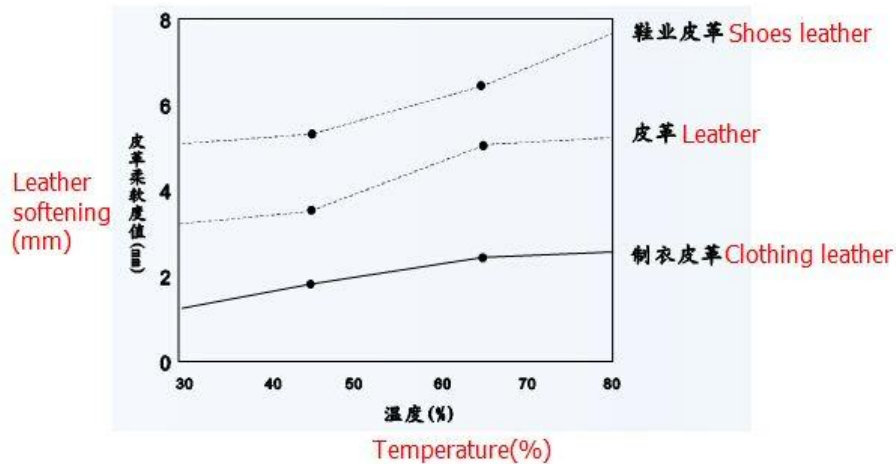

Figure 2
1.1 Place sample samples at standard space temperature : $20^{\circ}\text{C} \pm 2^{\circ}\text{C}$, Relative humidity: $65 \pm 2\%$ indoor 48 hours; In the test of all leather,the experimental results show that the softness of leather under the same indoor temperature 20°C .As the humidity increases, the softness will change significantly. (Figure 2 for three different purposes leather changes with temperature increasing)